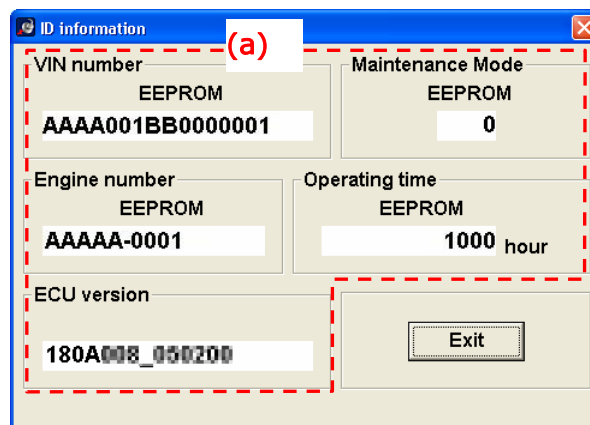

Fig. 8-1-1
The settings of the connecting ECU are displayed (Fig. 8-1-1 (a)).
- (3) Press the **[Exit]** button (Fig. 8-1-1 (g)), the ID information dialog box will close.